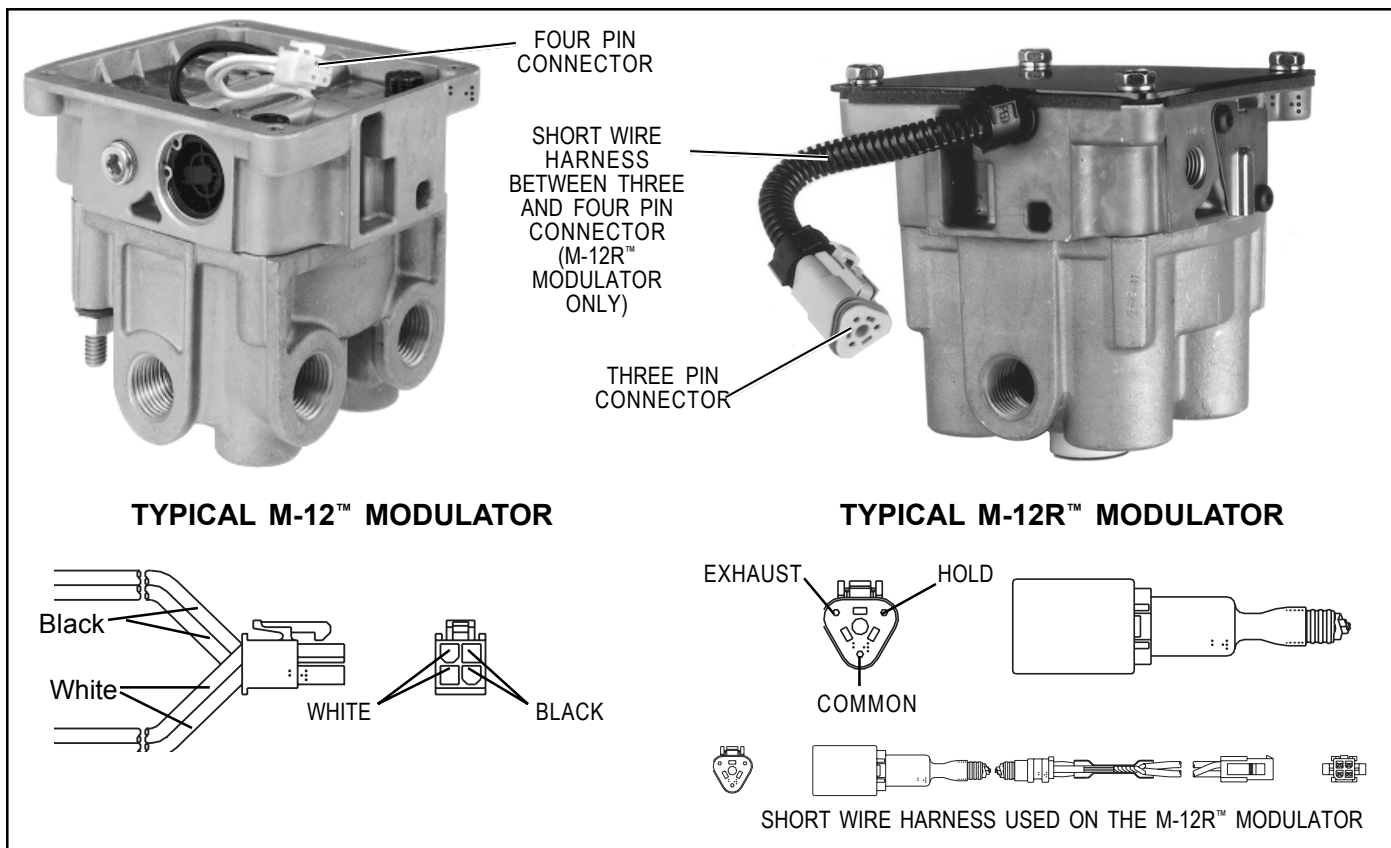

FIGURE 7 M-12™/M-12R™ MODULATOR CONNECTORS & WIRE HARNESS
2. Proceed to the modulator in question and identify it as an M-12™ or M-12R™ modulator and inspect its wiring connector. In the case of an M-12™ modulator it will be necessary to remove the four cap screws that secure the controller to the modulator. The M-12R™ modulator has an external connector that can be tested without removing the cover. Disconnect the connector and test the resistance between the pins on the modulator. Refer to figure 7.